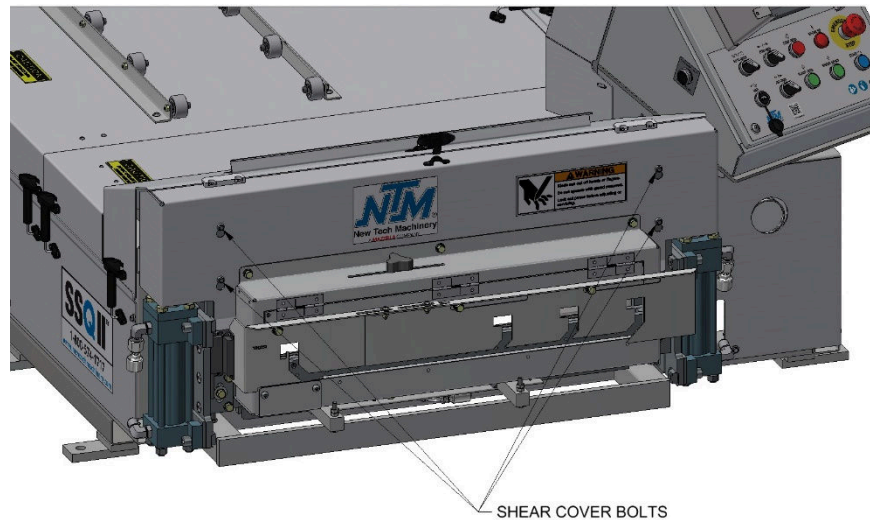

Figure 74: Removing Shear Cover
26. Using a 3/8" wrench, loosen the four (4) Shear Cover Bolts (Figure 74) about two turns and remove the Shear Cover.